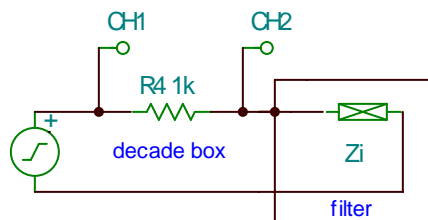

Figure 9. Measurement of input impedance
- To measure the input impedance, connect the waveform generator to your high-pass filter, putting a decade resistor box in series with the waveform generator (Figure 9). Connect the oscilloscope to the circuit so that you measure the total voltage (channel 1) and the voltage across the filter input (channel 2). Start with a very small value of resistance, and then increase this resistance until the signal on channel 2 is half the value of channel 1. At this point, the voltage drop across the resistor and the filter (Z_i) are the same, so their impedances are also the same. Note that we have made an approximation here that voltage and current are in phase with one another; this can cause an error of as much as $\sqrt{2}$ in the value determined in this way. However, for now this is good enough.